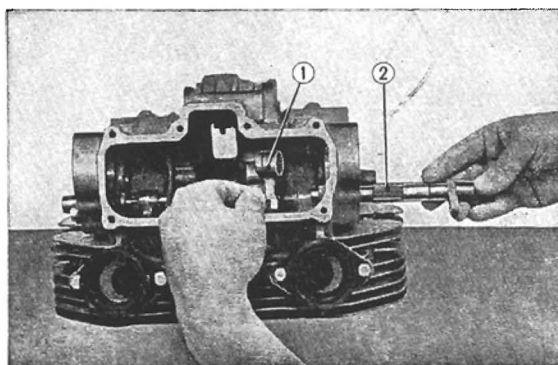

Fig. 3.48 Assemble valve spring on the head
2. Assemble the torsion bar valve spring into the cylinder head. Assemble the outer arm on the inside and the torsion bar valve spring assembly from the outside. (Fig. 3.48)